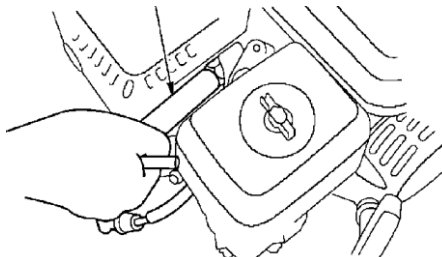

Fig. 15a
- Use a spark plug wrench to remove the spark plug. (Refer to Fig. 15a.)